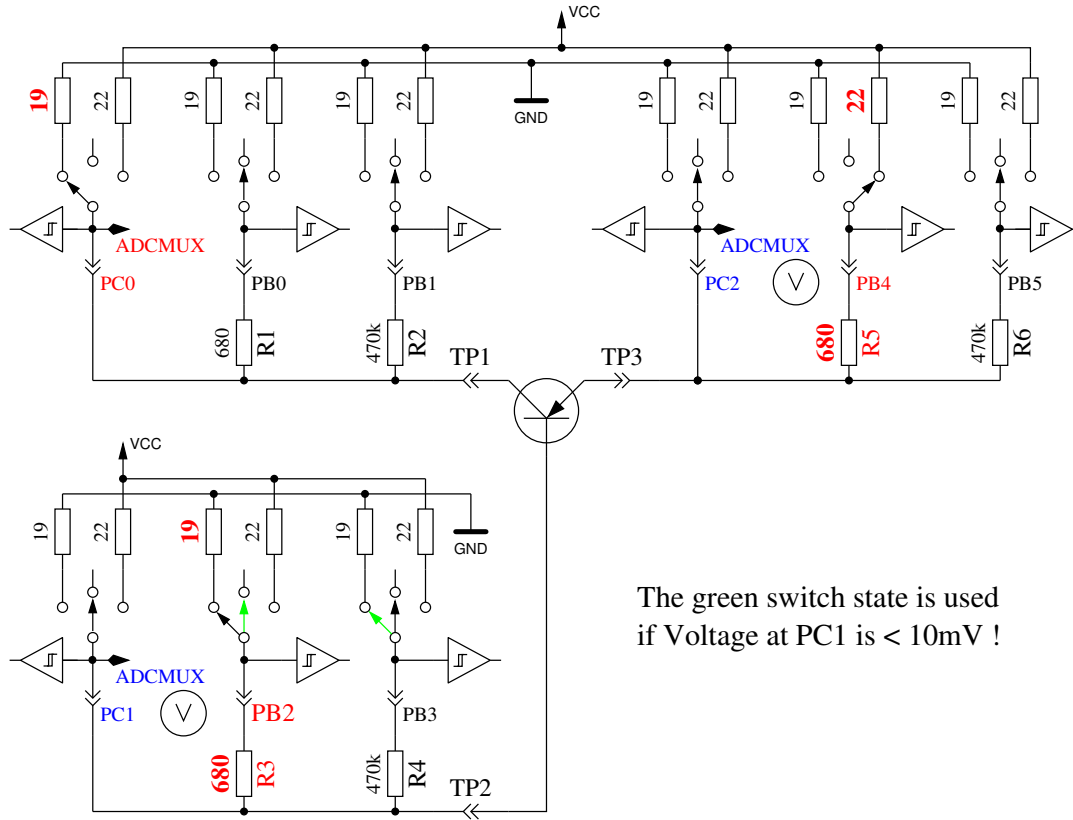

Figure 5.3: hFE measurement of PNP transistor with common collector circuit
First the current amplification factor is measured with common collector for the assumed PNP transistor. The measuring situation is shown in figure 5.3. If the measured voltage at the Base (UB) is above 9mV with the 680Ω resistor, the hFE is build as $hFE = \frac{UE-UB}{UB}$. The voltage UE is the difference of the Emitter-voltage to VCC. The difference between the 22Ω and 19Ω resistors are not respected. If the UB voltage is below 10mV, the measurement is done with the $470k\Omega$ resistor at the base. In this case the current amplification factor is build as $hFE = \frac{UE \cdot 470000}{UB \cdot (680 + 22)}$. Because the current amplification factor of Darlington Transistors can be very high, the factor is limited to $65535 (2^{16} - 1)$.